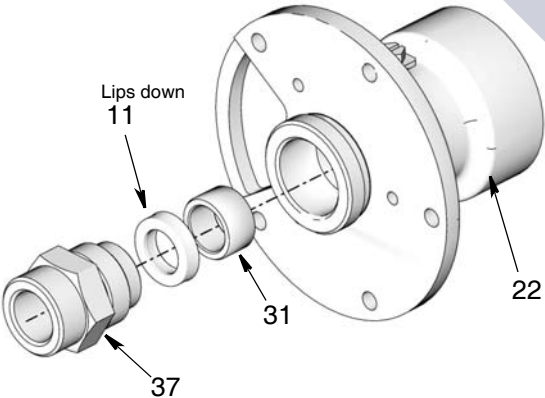

Fig. 29
5. Remove u-cup seal (11) from flange (22) (Fig. 29). Grease and replace the u-cup seal with the new part included in the kit and install them in the order shown in Fig. 29.
- The bearing (31) is not included in the kit. This part is reused. The bearing can be installed with either side facing up. There is not just one way to install this part.
- The bearing (31) is a transition fit and in some installations it may not be removed.
- Be sure u-cup seal (11) is installed with the lips facing down as shown in Fig. 29.